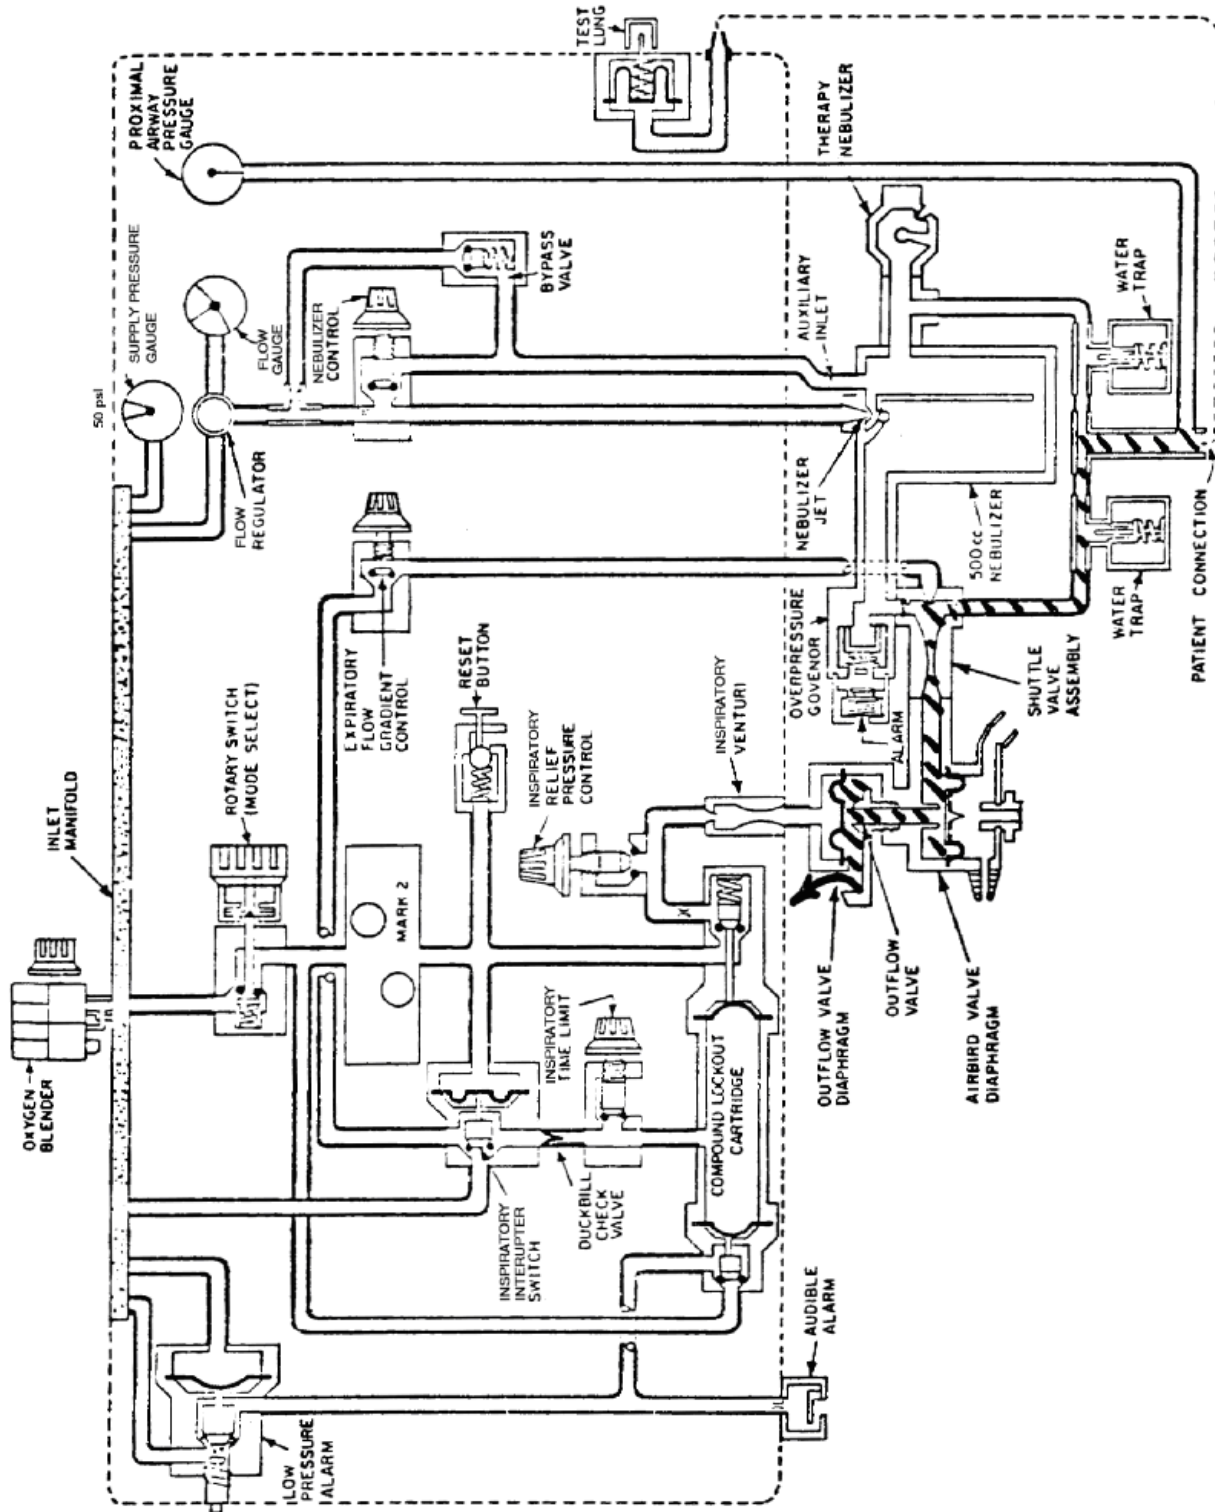

Figure 1-13. Expiratory path in any mode of operation.
d. During the expiratory phase (figure 1-13), gas flows through the inspiratory-interrupter cartridge and the expiratory flow-gradient control to the venturi in the shuttle valve assembly.